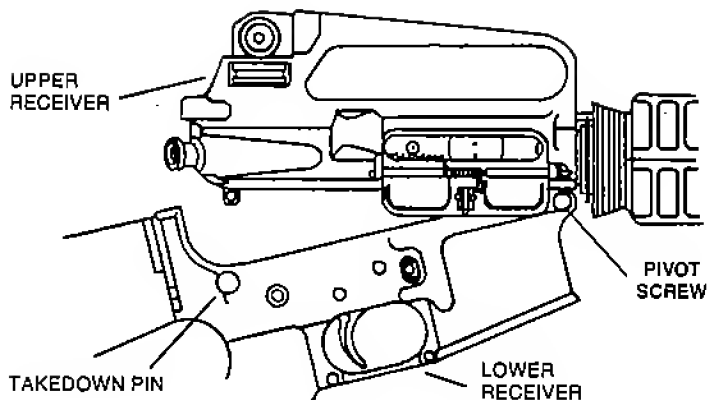

FIGURE 8 — RECEIVERS SEPARATED
4. If required for more convenience, remove pivot screw from front of receivers, and completely separate receivers. (See Figure 8.)